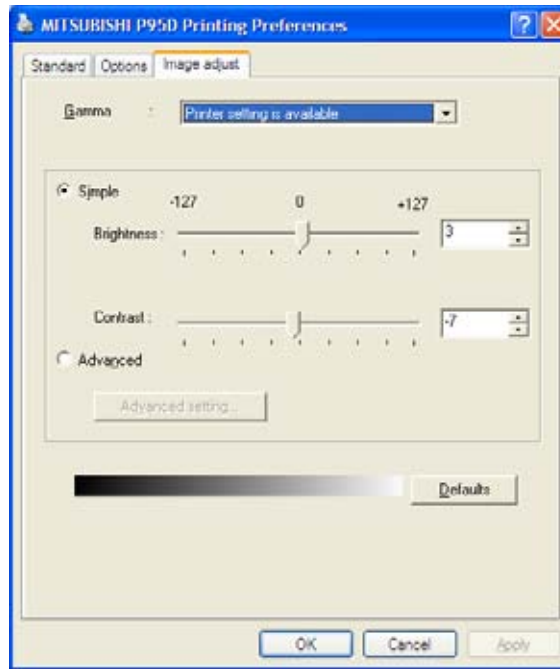

Figure 3-50 Image Adjust page
- 4.) Select the IMAGE ADJUST page (see: Figure 3-50 below) and select: